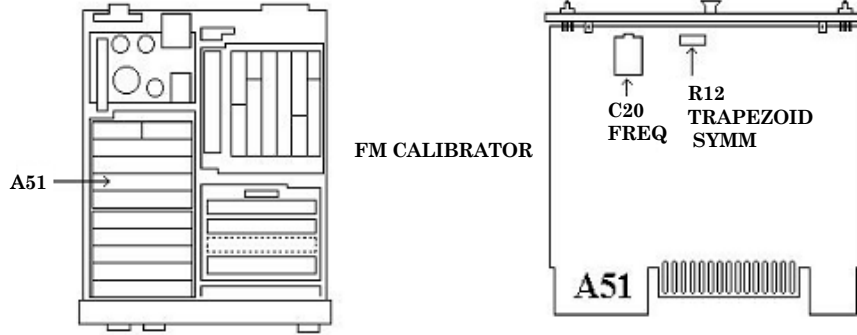
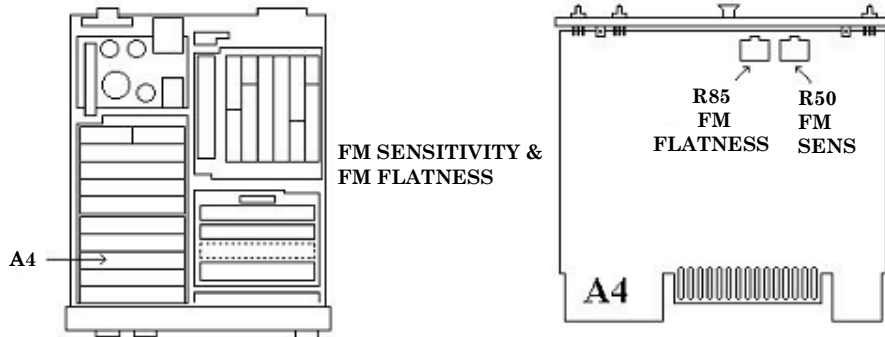
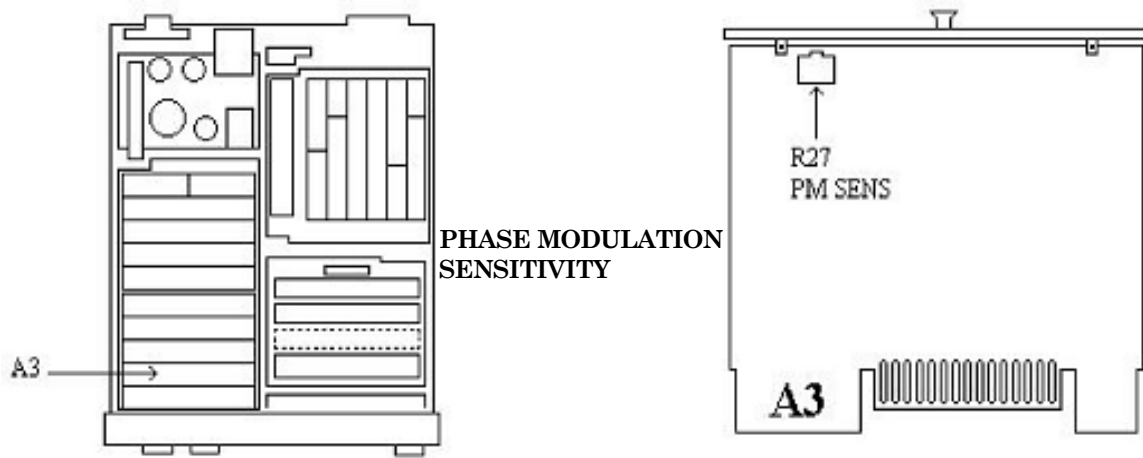

Figure 8. A51 board.
Figure 9. A4 board.
Figure 10. A3 board.
- (11) Disconnect all external equipment from TI and connect TI sensor module to TI **CALIBRATION AM/FM OUTPUT**.
- (12) Press TI keys as listed in (a) through (d) below:
- (13) Adjust A51C20 FREQ (fig. 8) for a TI display between 1009000 and 1011000. (R)
(14) Press TI keys as listed in (a) through (d) below:
(15) Alternately switch TI **DETECTOR** between **PEAK+** and **PEAK-** and note the display for each detector.
(16) Adjust A51R12 TRAPEZOID SYMM (fig. 8) until the readings are the same for both detectors within ± 0.010 kHz. (R)
(17) Press TI keys as listed in (a) and (b) below:
(18) Allow TI to take at least two readings.
(19) Adjust A4R50 FM SENS (fig. 9) for a displayed indication between 99.95 and 100.05 percent. (R)
- (24) Set AM/FM test source **TEST MODE** switch to **FM**.
- (25) Adjust AM/FM test source **CARRIER FREQUENCY TUNE** for a TI indication of approximately 400 MHz.
- (26) Press TI keys as listed in (a) through (c) below:
- (27) Adjust calibrator level for a TI indication of 280 kHz.
- (28) Press calibrator **NEW REF** key.
- (29) Press TI **RATIO** key.
- (30) Change calibrator output frequency to 150 kHz.
- (31) Adjust A4R85 FM FLATNESS (fig. 9) for a display between 99.9 and 100.1 percent. (R)
- (32) Press TI keys as listed in (a) through (c) below:
- (33) Set calibrator for a wideband output frequency of 1 kHz at an amplitude of 500 mV.
- (34) Move TI sensor module from AM/FM test source **FM OUTPUT** to **FM/4 OUTPUT**.
- (35) Adjust AM/FM test source **CARRIER FREQUENCY TUNE** for a TI indication of approximately 100 MHz.
- (36) Press TI keys as listed in (a) and (b) below:
- (37) Adjust calibrator output for a TI indication 100 kHz.
- (38) Press TI **MEASUREMENT Φ M** key.
- (39) Adjust A3R27 PM SENS (fig 10) for a TI indication of 100 ± 0.2 rad. (R)
- (40) Reduce all outputs to minimum and disconnect equipment setup.